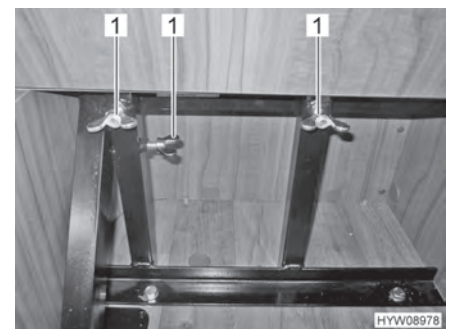

Fig. 18 Secure the attachable seat with wing nuts
- Secure the attachable seat with wing nuts (Fig. 18,1).